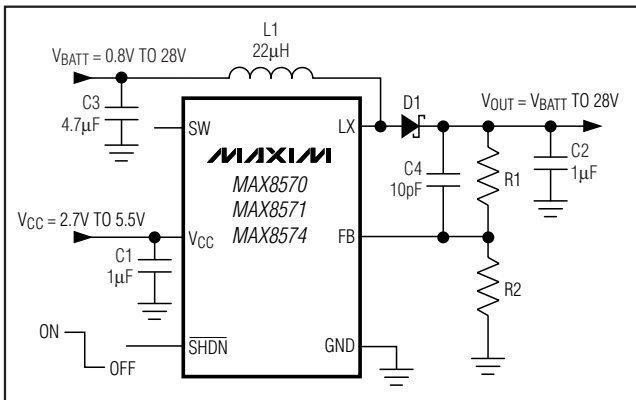

Figure 4. Using a Separate Input Supply for the Inductor
**EFFICIENCY vs. BATTERY VOLTAGE (FIGURE 4)**
Separate power supplies can be used for the IC and the inductor. This allows power to be used from a battery or supply with a voltage as low as 0.8V, or higher than the VCC operating range of the converter. When using a separate inductor supply, SW is left unconnected and the supply is connected directly to the inductor (see Figure 4). Note that in this configuration the output is no longer disconnected from the input during shutdown. In shutdown the output voltage goes to a diode drop below the inductor supply voltage.